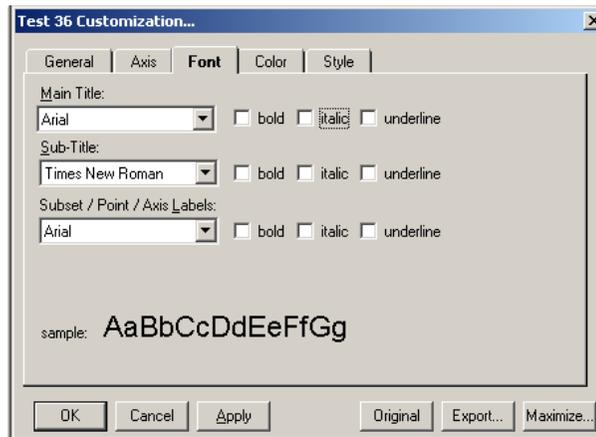

Figure 49 Customization Dialog Box—Font Tab
- **Font Tab**—Use the Font tab to change the appearance of the fonts that appear in the Main Title, Sub Title, and Subset/ Point/ Axis Label boxes. The bottom of the dialog box displays a sample of the font as you select it. See Figure 49.